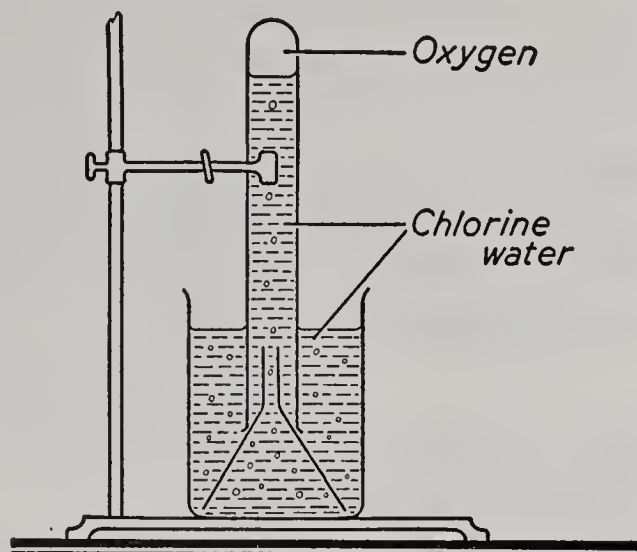

Fig. 66. The action of sunlight on a solution of chlorine and water.
13. (*Demonstration*) Remove the chlorine generator from the system of gas bottles and bubble chlorine through water contained in a 400 ml. cylinder until the solution is saturated with chlorine. Fill a large test-tube with this solution and invert it over a funnel as shown in Fig. 66. Allow the apparatus to stand in sunlight, and after all action ceases test the gas which collects in the test-tube with a glowing splint. Test the liquid remaining in the beaker with blue litmus paper.